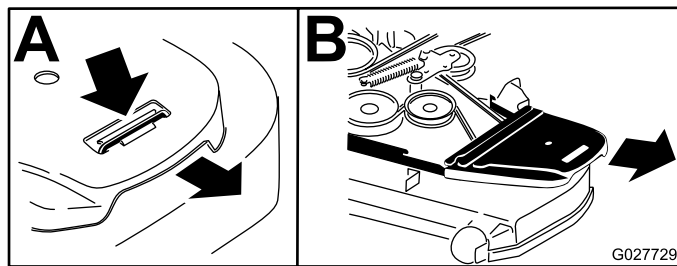

Figure 87
4. Remove the belt covers (Figure 87).